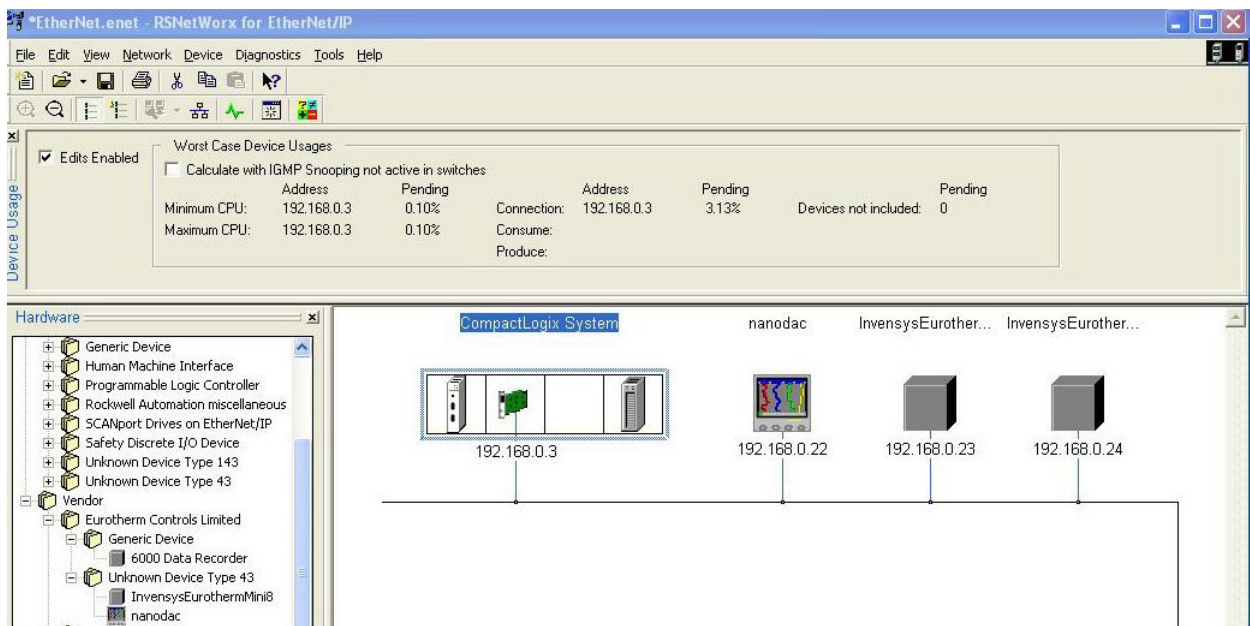

Figure 95 Example of Eurotherm Products on an EtherNet/IP Network
4. Drag and Drop devices from the registered Hardware list to create your network. Figure 95 shows an example of two Mini8 controllers on a network together with a nanodac controller.